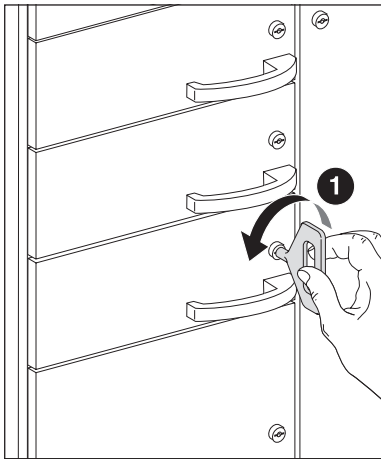
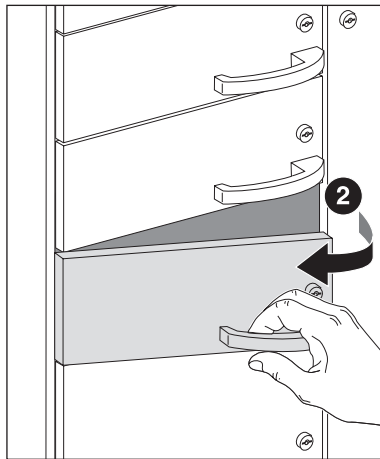

Fig. 11
Fig. 11a
- Open the door to access the devices (see Fig. 11 and Fig.11a).